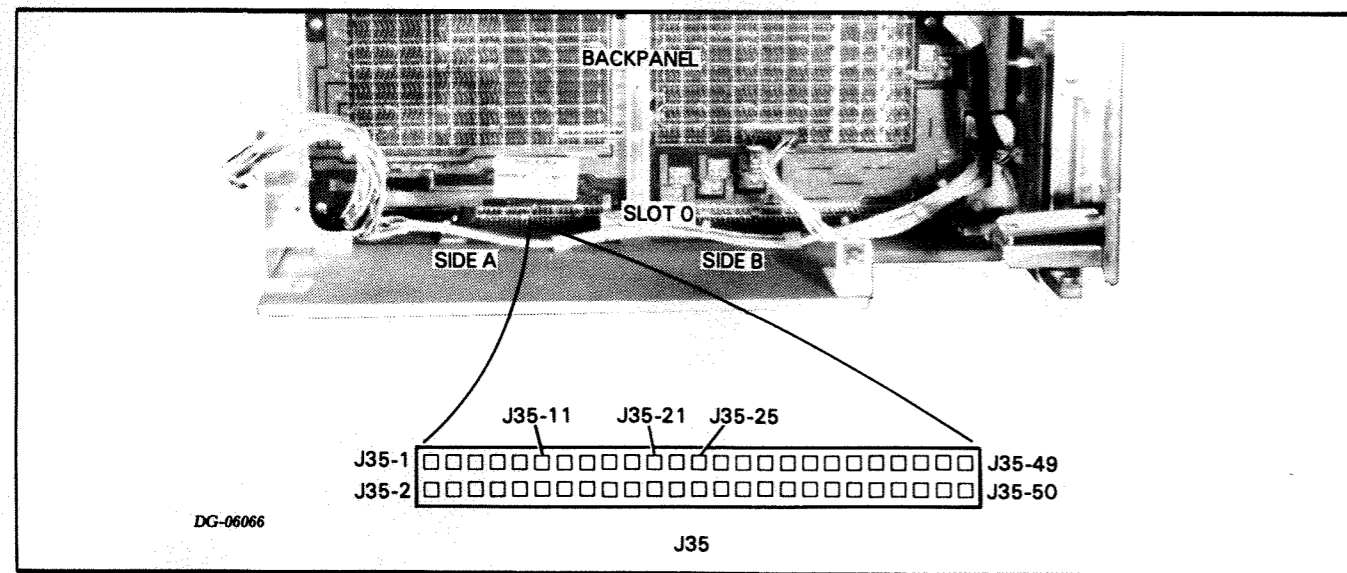

Figure 6.7 JACK J35
2. Check the **+12 MEM** voltage at location J35-3 (see Figure 6.7).
5. Short **MEMD** at J35-21 to **GND** at J35-1 (see Figure 6.7).
- Check the -11V voltage at J35-25 (see Figure 6.7).
- b. If the light is NOT on, check the ONLED-P voltage at J35-11 (see Figure 6.7).